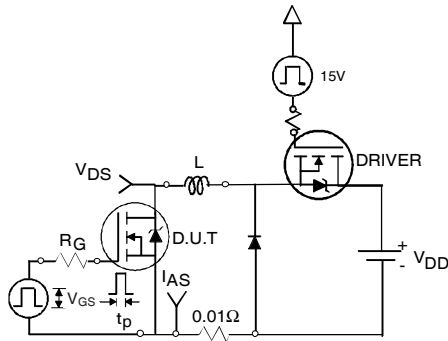

Fig 12a. Unclamped Inductive Test Circuit
- ② Limited by T_{Jmax} , starting $T_J = 25^\circ\text{C}$, $L = 0.077\text{mH}$, $R_G = 25\Omega$, $I_{AS} = 51A$, $V_{GS} = 10V$. Part not recommended for use above this value.
- ③ $I_{SD} \leq 51A$, $di/dt \leq 260A/\mu s$, $V_{DD} \leq V_{(BR)DSS}$, $T_J \leq 175^\circ\text{C}$.
- ④ Pulse width $\leq 1.0\text{ms}$; duty cycle $\leq 2\%$.
- ⑤ $C_{oss \text{ eff.}}$ is a fixed capacitance that gives the same charging time as C_{oss} while V_{DS} is rising from 0 to $80\% V_{DSS}$.
- ⑥ Limited by T_{Jmax} , see Fig.12a, 12b, 15, 16 for typical repetitive avalanche performance.
- ⑦ This value determined from sample failure population. 100% tested to this value in production.
- ⑧ This is applied to D²Pak, when mounted on 1" square PCB (FR-4 or G-10 Material). For recommended footprint and soldering techniques refer to application note #AN-994.
3. Equation below based on circuit and waveforms shown in Figures 12a, 12b.